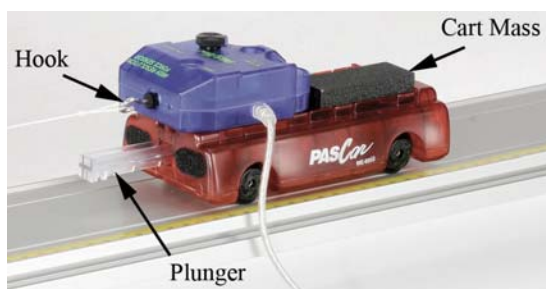

Figure 2. Cart
5. Using the long thumbscrew, attach the Force Sensor to the cart. Make sure the plunger (see Fig. 2) on the cart is out before attaching the Force Sensor.